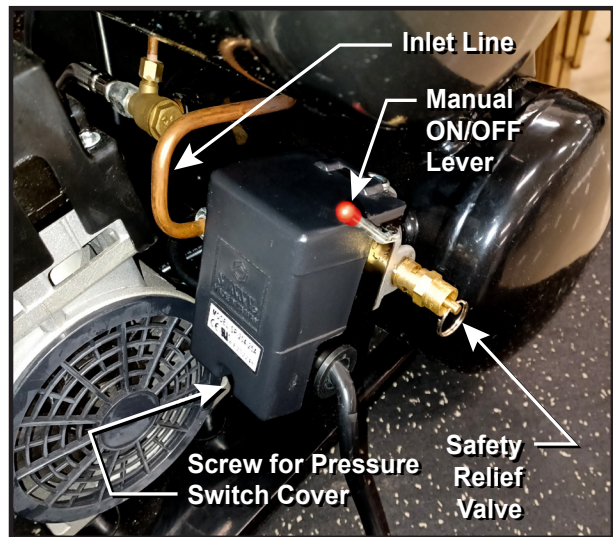

Figure 30. Cut-in/cut-out adjustment screw location.
4. Remove Phillips head screw shown in **Figure 30**, to remove pressure switch cover.